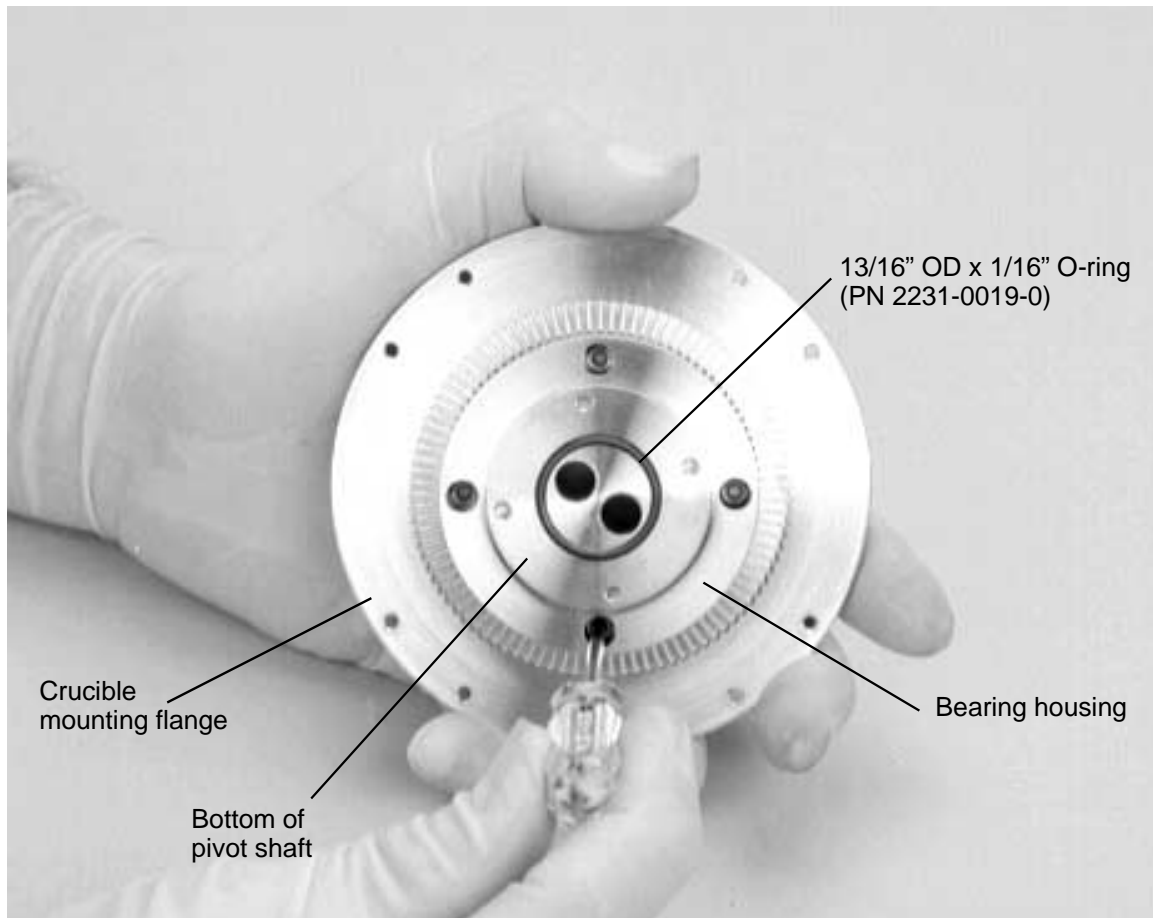

Figure 5-19. Removing the screws securing the bearing housing assembly to the crucible mounting flange
Step 22: Remove the four 6-32 × 5/8-in. screws that secure the bearing housing to the crucible mounting flange. To do so hold the bearing housing-mounting flange assembly in one hand, with the top of the mounting flange facing down. Then insert the Allen driver into the recesses in the bearing housing that hold the four screws and remove them, as shown in Figure 5-19.